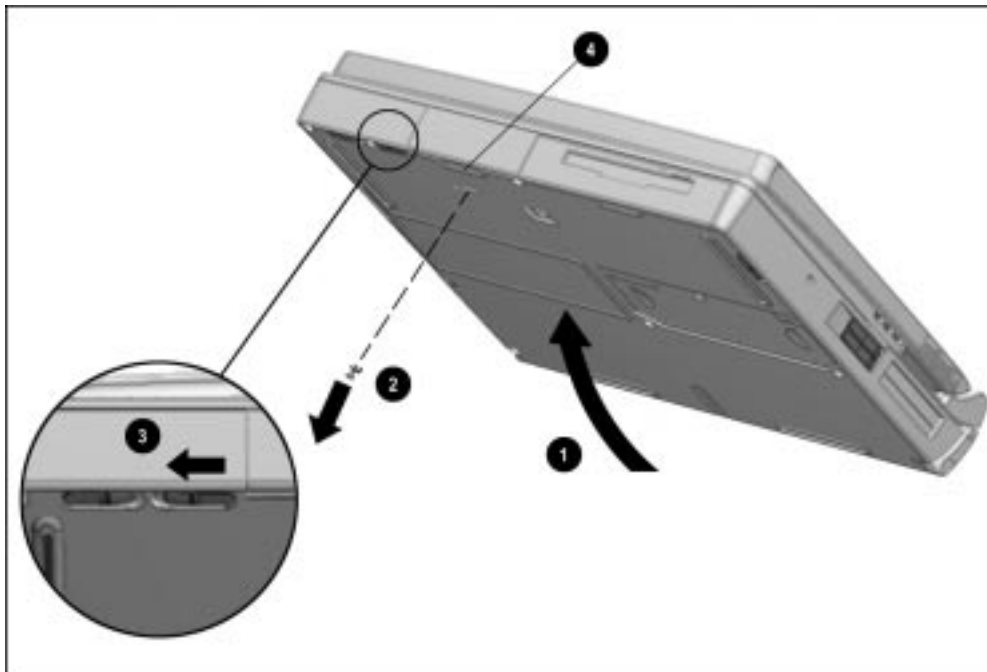

Figure 5-14. Releasing a Hard Drive from the Hard Drive Bay
2. Tilt the computer at an angle ❶ so the bottom of the computer is accessible (Figure 5-14).
3. If the hard drive has been secured in the hard drive bay with a single- or dual-bay security screw ❷, remove the screw with the security wrench included with the computer.
4. Slide the hard drive release latch to the left ❸.
5. Grasp the hard drive using the recess beneath the hard drive bay ❹.